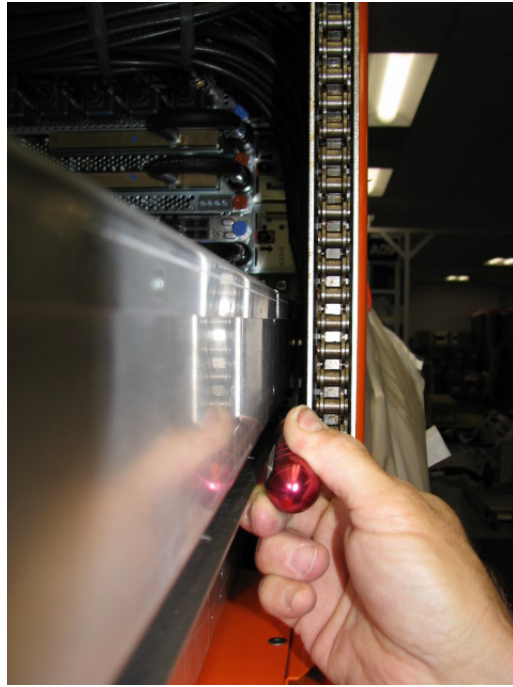
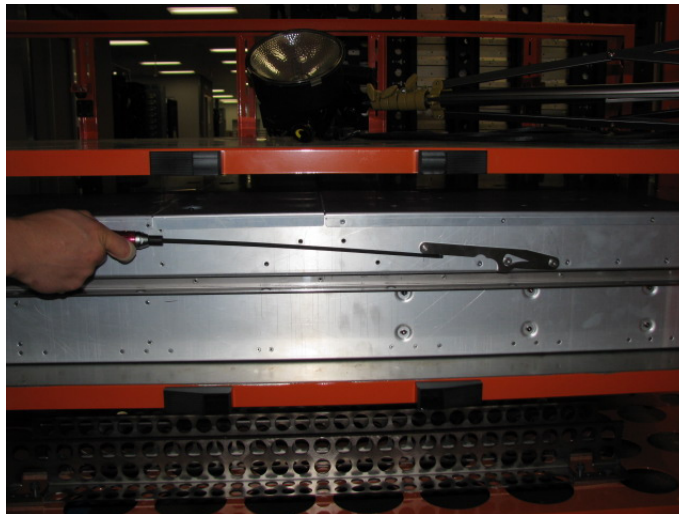

Figure 44 Disengage the right latch first
Figure 45 Side view of latching system of DE out of frame
- STEP 41 Using the 4mm Hex driver P/N 41V1059 (shipped in Hand Tool Kit P/N 74Y0988), release the DE safety latches (see Figure 44 and Figure 45).